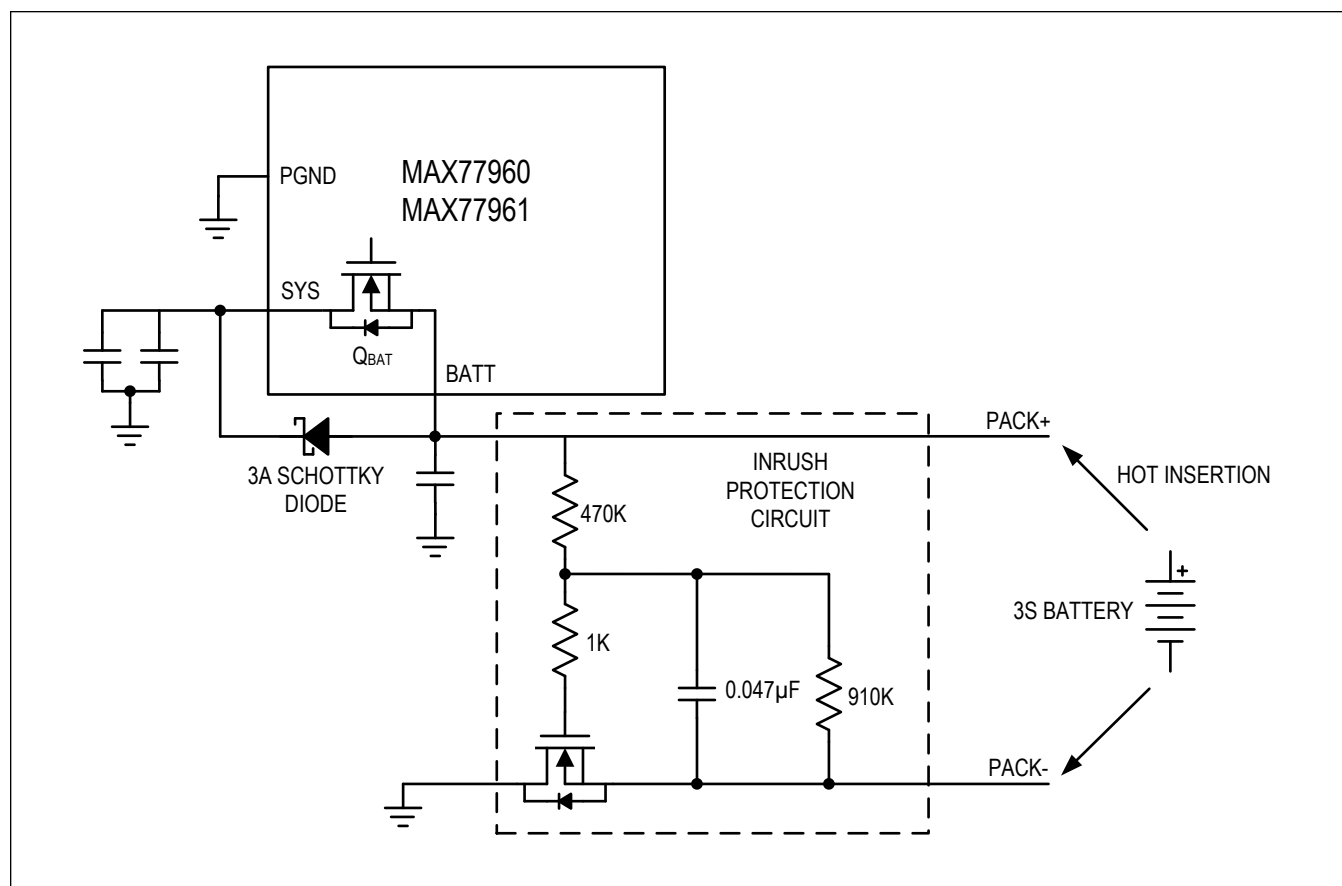

Figure 15. Battery Insertion Protection with 3S Battery
- For system designs with a 3S battery, the inrush current is higher than a 2S battery due to higher battery voltage. In addition to the 3A Schottky diode from BATT to SYS, it is required to include an inrush protection circuit. The inrush protection circuit consists of an FET and RC network. See Figure 15 for a complete solution. At battery hot insertion, V_{GS} of the FET is slowly charged by the RC network. The FET gradually turns on and limits the inrush current. For FET selection, check the current and voltage rating of the FET to guarantee that it satisfies the system specification.